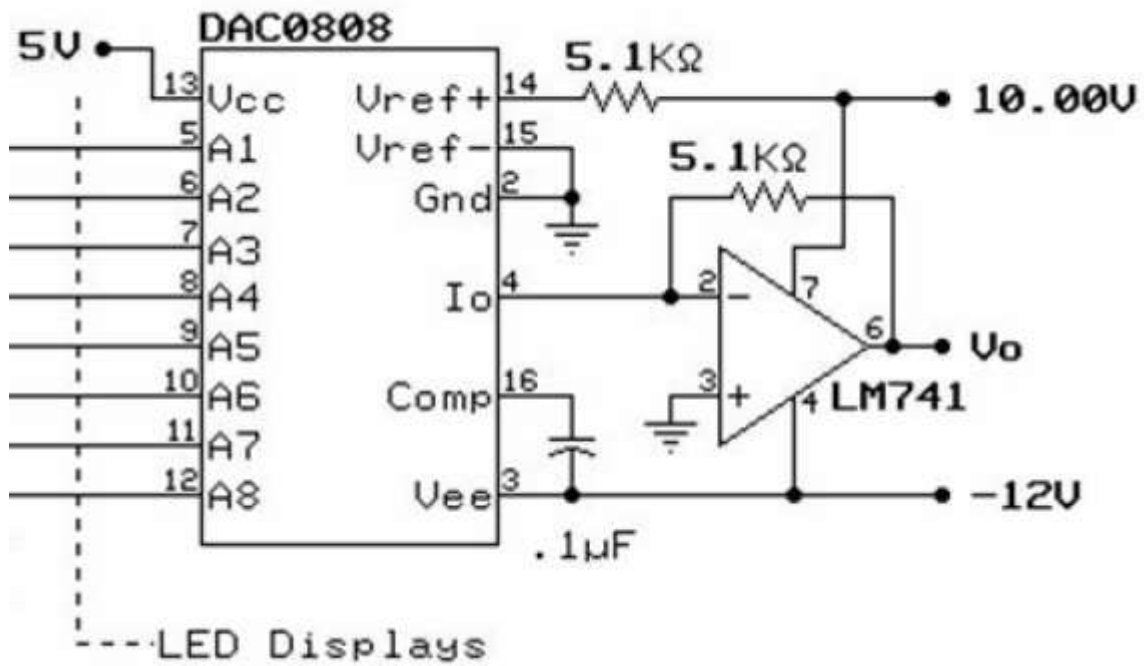

Figure 1: Digital to analog converter
1. Connect the circuit as shown in the figure 1.